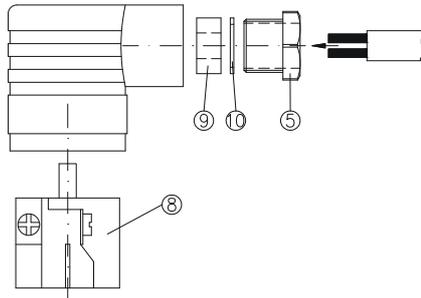

Fig. 10
- ↖ Insert the supply cable through the screwed cable gland ⑤, the pressure ring ⑩ and the rubber insert ⑨ into the cable socket ② (⇒ Fig. 10).